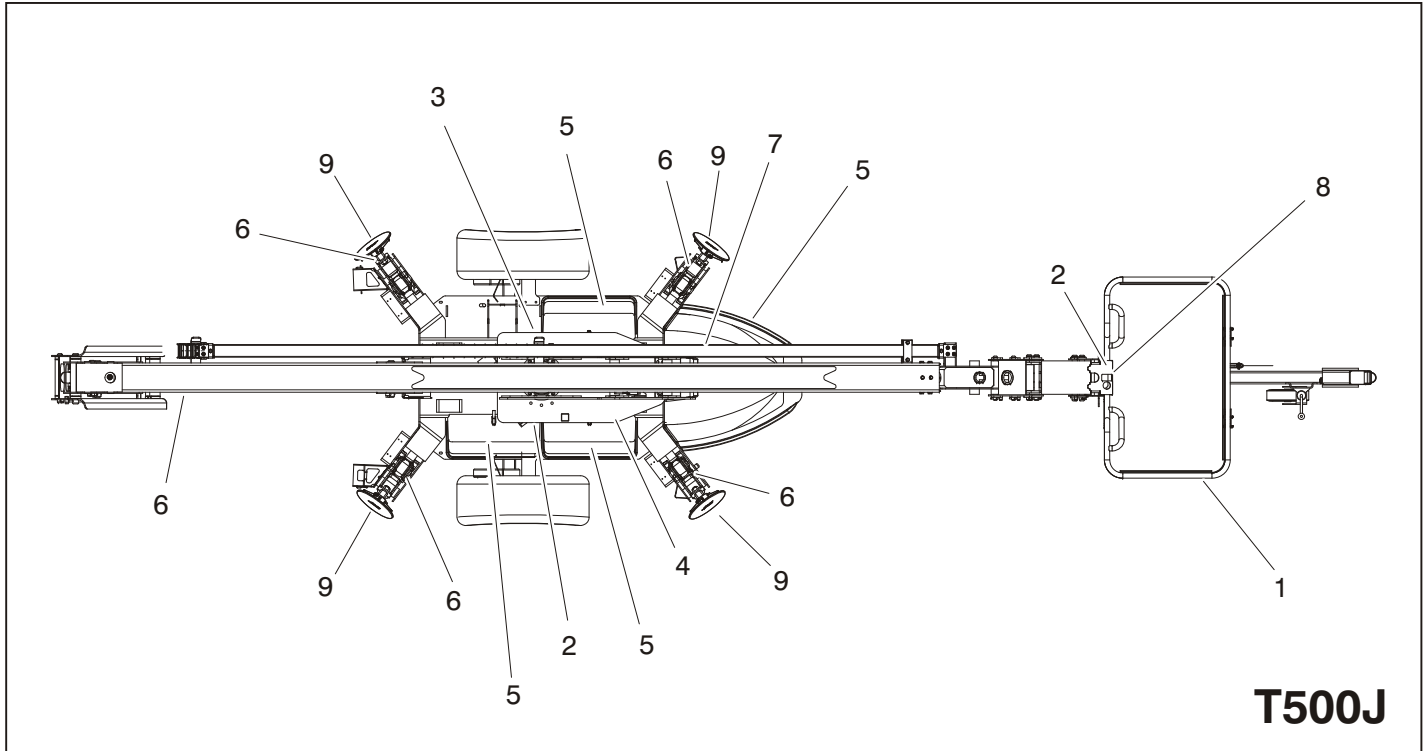

Figure 2-3. Daily Walk-Around Inspection - Sheet 2 of 3
5. **“Walk-Around” Inspection** – Refer to Figure 2-3.